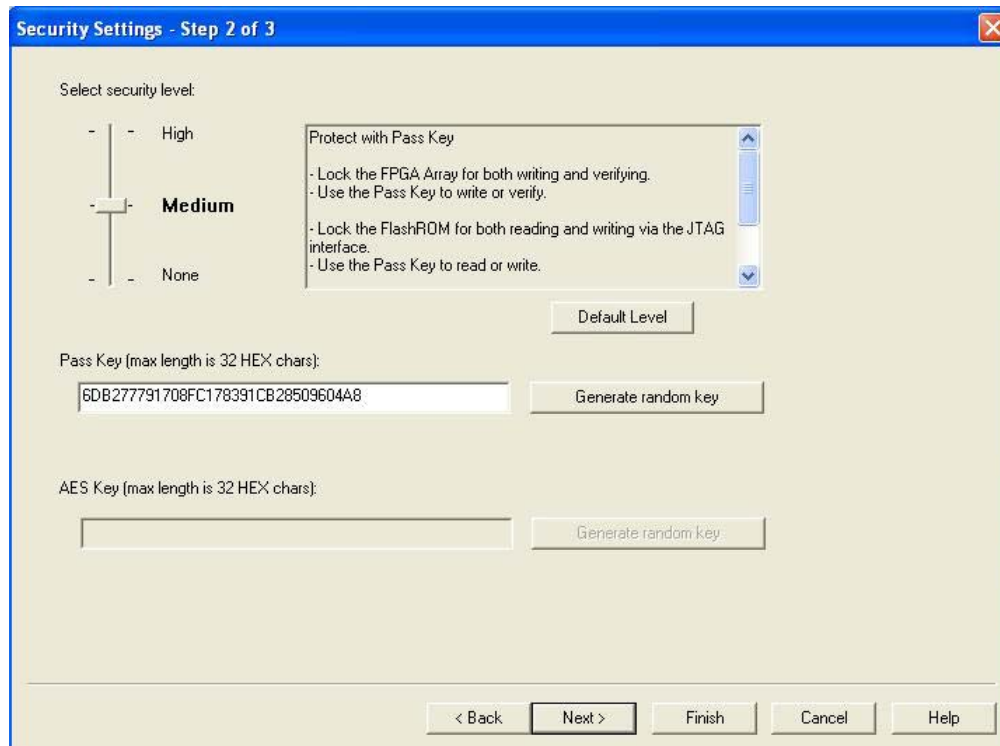

Figure 11-12 • Medium Security Level Selected for Low Power Flash Devices
2. Choose the appropriate security level setting and enter a FlashLock Pass Key. The default is the **Medium** security level (Figure 11-12). Click **Next**.